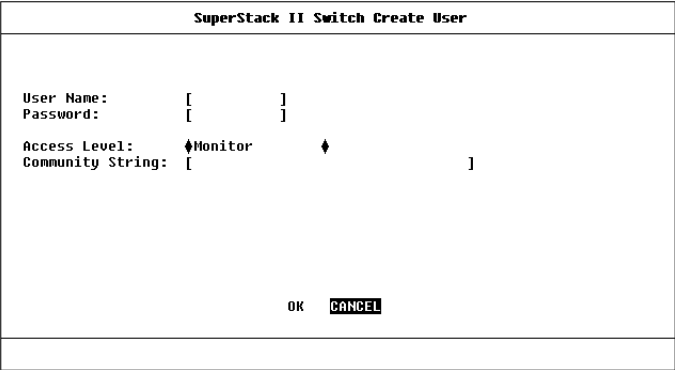

Figure 4-3 Create User screen
- 1 Select the CREATE USER option. The Create User screen is displayed, as shown in Figure 4-3.